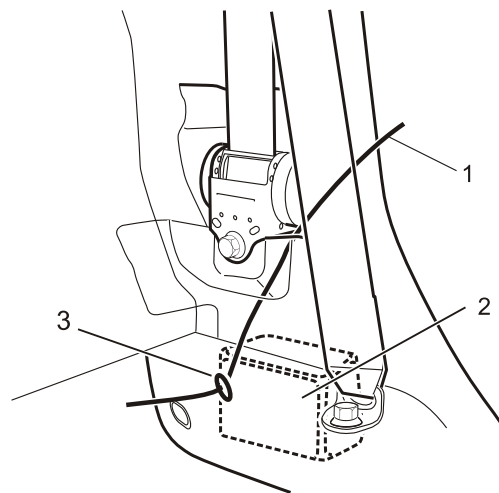

Figure 18
31. Remove the round grommet (3) from the rear left corner of the inner sill of the vehicle cab and feed a guide wire (1) up between the sheet metal and the acoustic foam (2) in the cavity. When the guide wire is visible from the seat belt retraction cavity, tape the canopy power harness to the guide wire and pull the harness into the vehicle. Pull the harness until the grommet on the harness is seated in the grommet hole. Refer to figure 18.